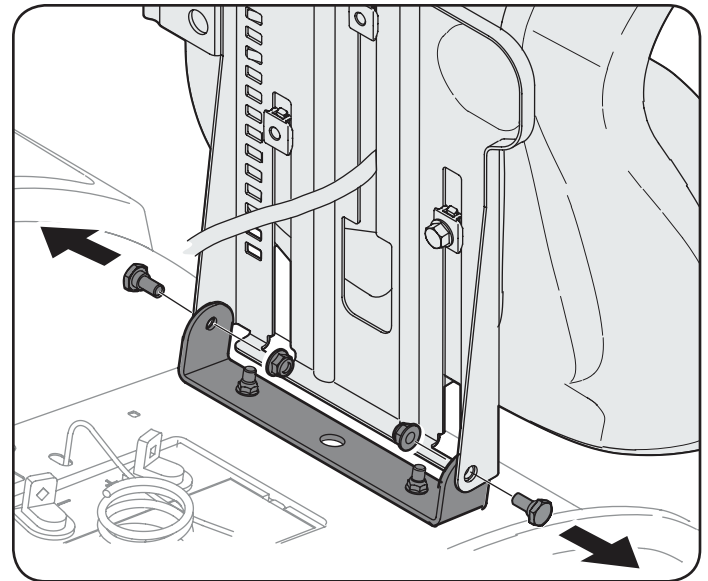

Figure 2
2. Remove the two shoulder screws and flange lock nuts in the seat pan as shown in Figure 2.